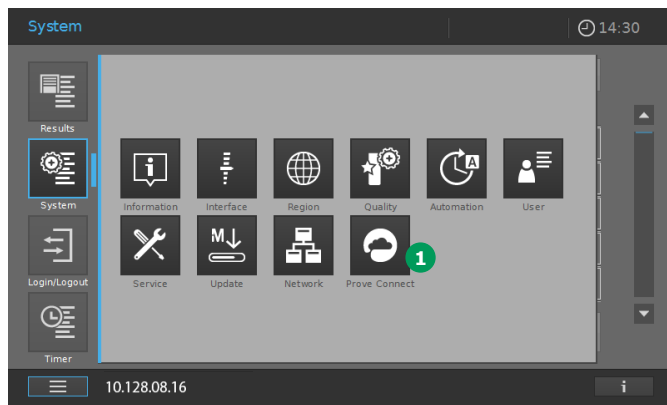

Figure 16 - Screen of Spectroquant® Prove / Prove plus after clicking on "System"
1. Enable Prove Connect in the Prove System menu **1** (Figure 16).